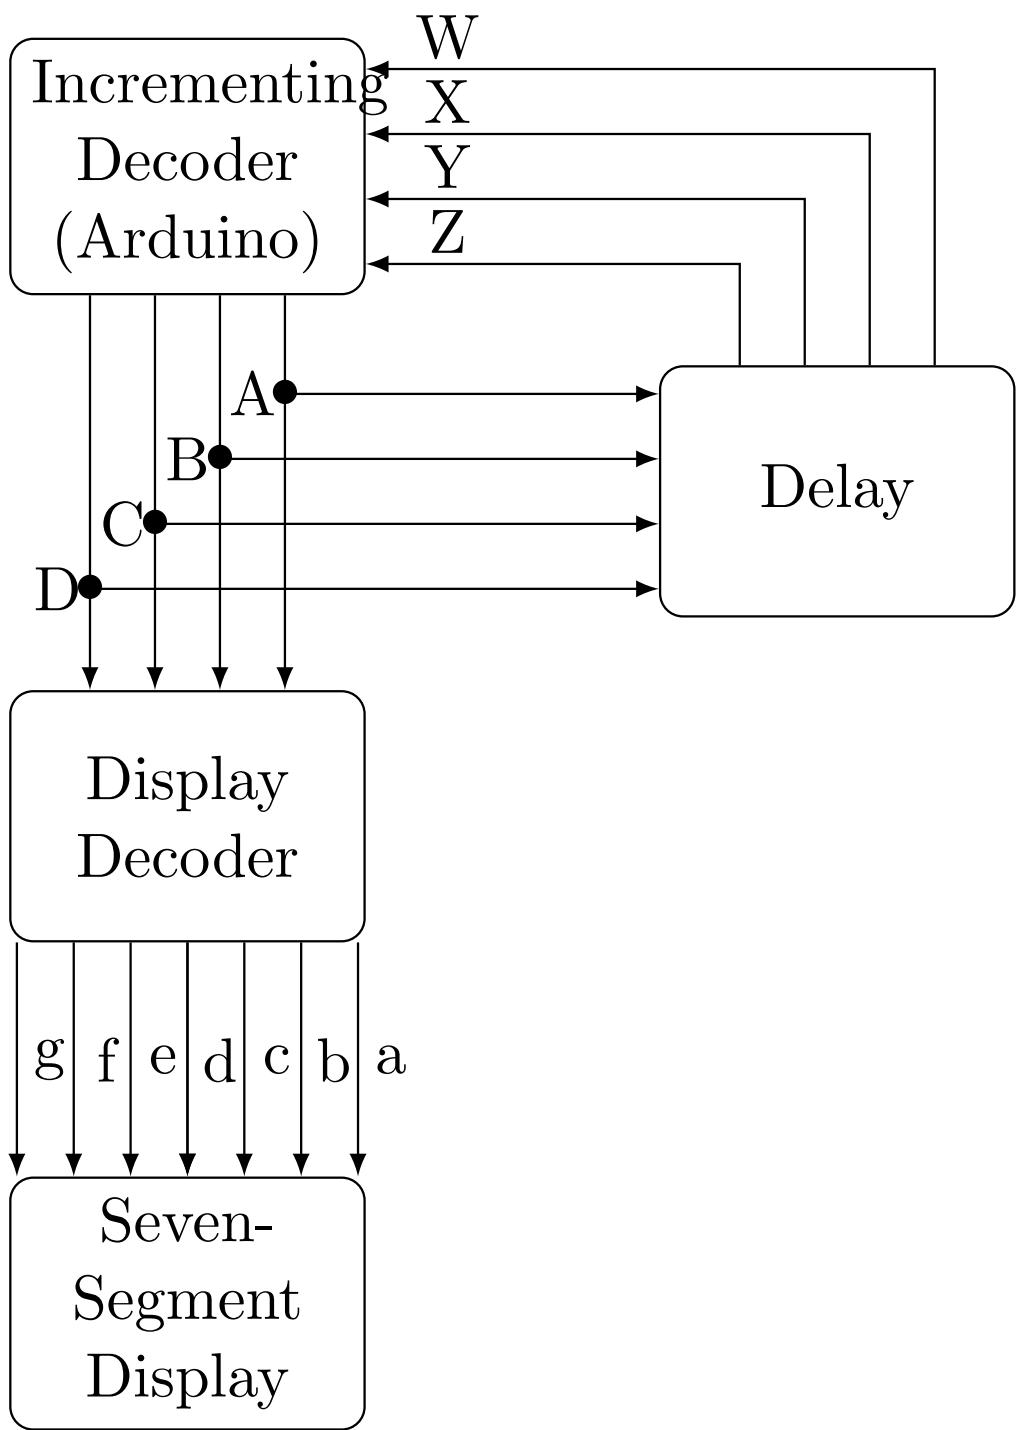
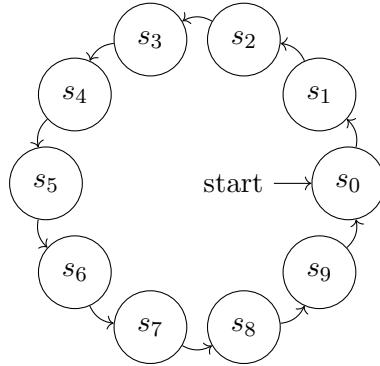
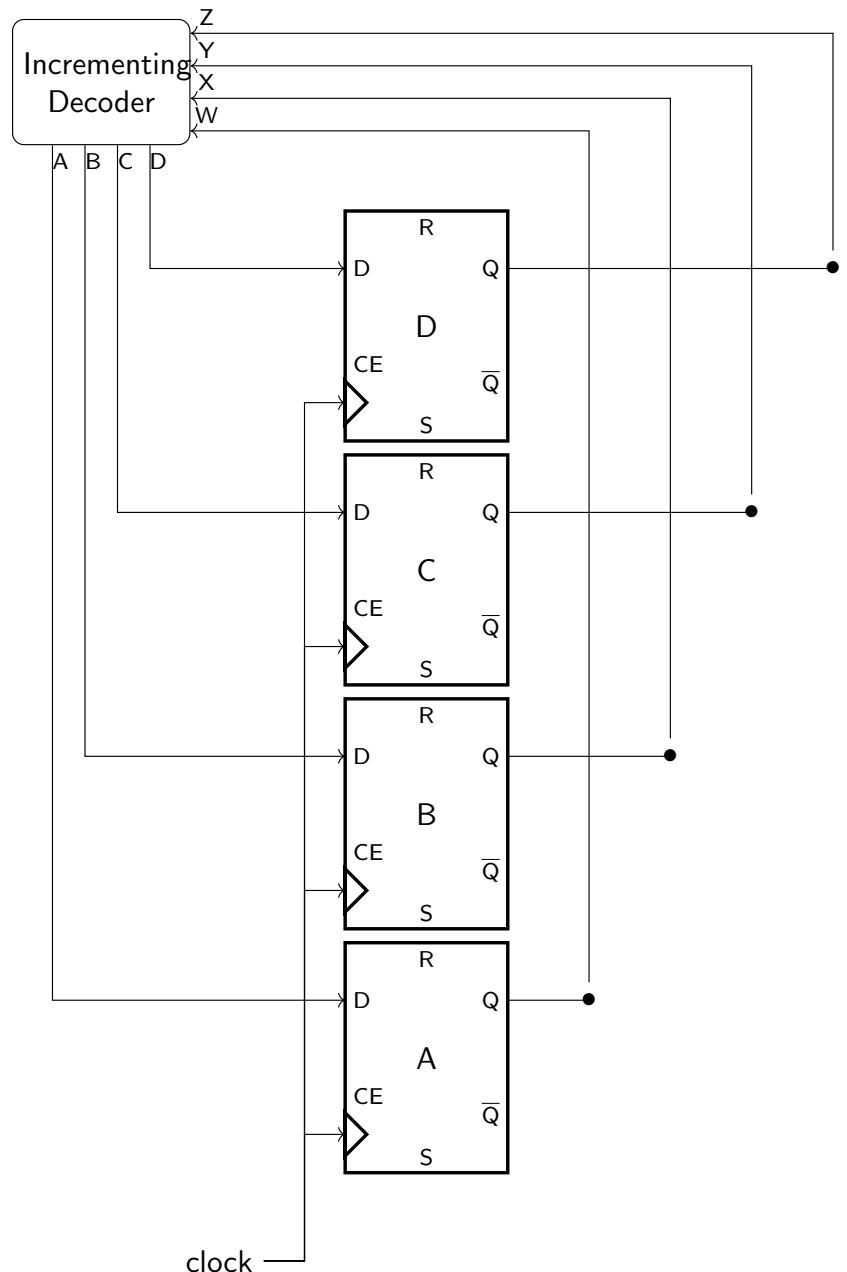

Figure 5.2:
Figure 6.1: FSM for the decade counter
Figure 6.2: Decade counter FSM implementation using D-Flip Flops
The block diagram of a decade counter (repeatedly counts up from 0 to 9) is available in Fig 5.2 The incrementing decoder and display decoder are part of combinational logic, while the delay is part of sequential logic
1. Fig 6.1 shows a finite state machine (FSM) diagram for the decade counter in Fig 5.2
2. The FSM implementation is available in Fig 6.2 The flip-flops hold the input for the time that is given by the clock This is nothing but the implementation of the Delay block in Fig 5.2
For the FSM in Fig 6.1, the number of states is 9, hence the number flipflops required